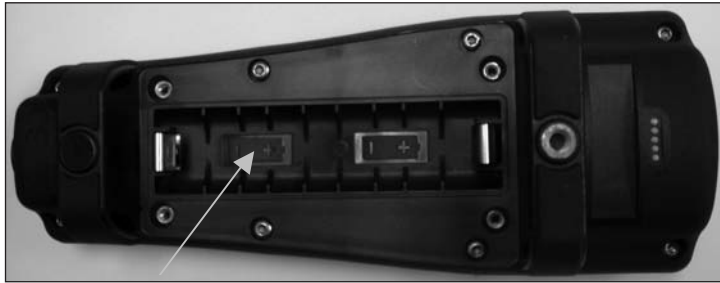

Figure 1. Pro30 with battery cover removed. Notice battery symbols indicating polarities.
4. Install the new batteries, ensuring correct polarity alignment (figure 1).